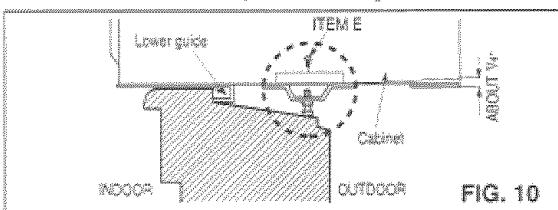

FIG. 10
- 8** Select the position that will place the sill supports near the outermost point on sill (FIG. 10). Attach the sill supports to the cabinet track hole closest to the selected position using screw (ITEM E).